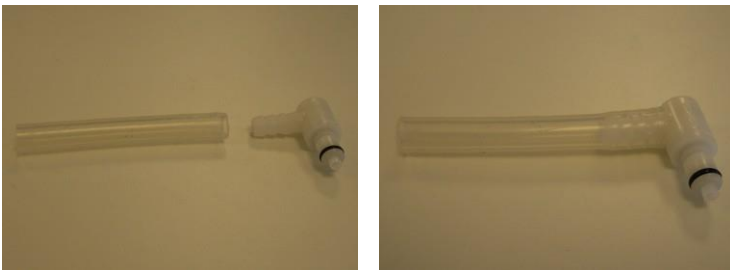

Figure 3-38. Connecting the Long Vacuum Tube to its Quick Connector Fitting
2. Connect the longer piece of the vacuum tube to its quick connector fitting, as shown in Figure 3-38.